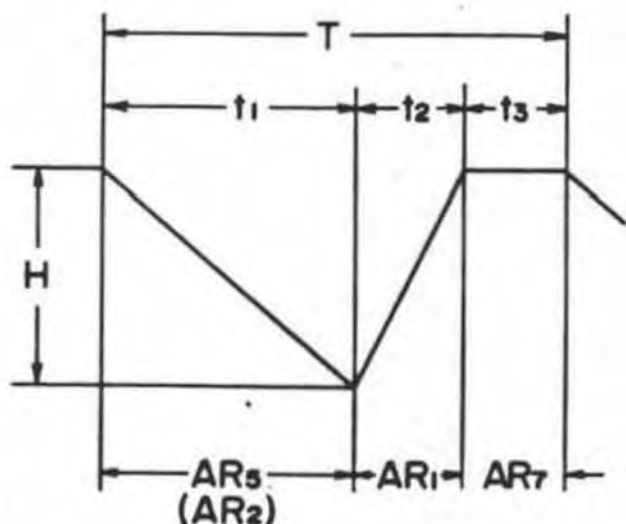
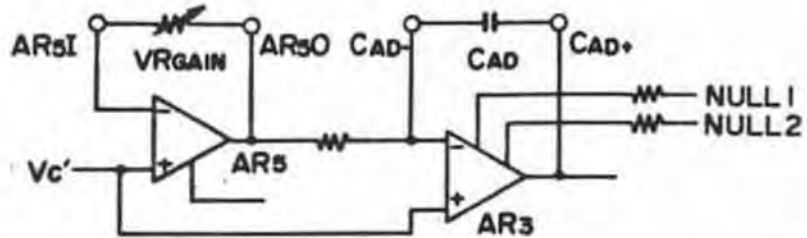

Fig. 3-10
Fig. 3-14
o Fig. 3-10. is a schematic representation of the dual ramp integration analog digital convertor.
- o Fig. 3-14 shows the schematic for the circuit is used in the A/D conversion whose waveforms are shown in Fig. 3-10 and 3-13. The following is true: